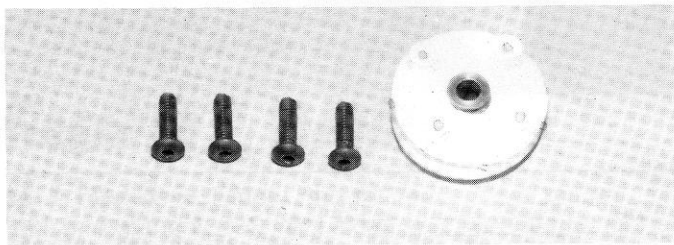
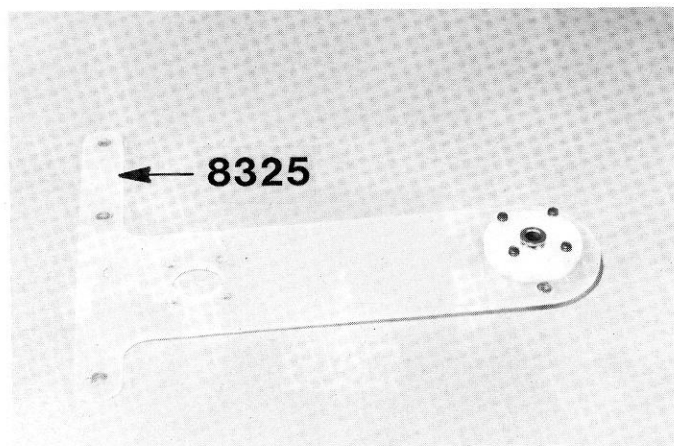

Fig. 14
Fig. 15a
□ **Figs. 14, 15a & 15b**-- Mount the socket assembly onto the #8325 T-bar with the four screws shown in Fig. 14. Do not overtighten. If this ball is tight in the plastic, it's okay; it doesn't swivel. (Fig. 15a shows the top view; Fig. 15b shows bottom view.)